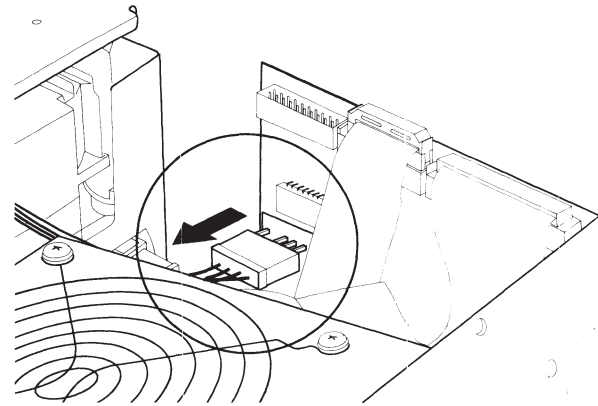

Figure 7-51. Removing Power Cables from an External Interface Adapter Board.
3. Disconnect the universal drive power cable from the external interface adapter board in the fixed disk drive expansion unit (Figure 7-51).